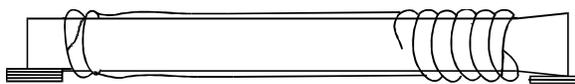

Figure 2
4. Reposition the spigot timber at the extreme spigot end and pull the sleeving sufficiently far back from the spigot end to allow for subsequent jointing (Figure 2).